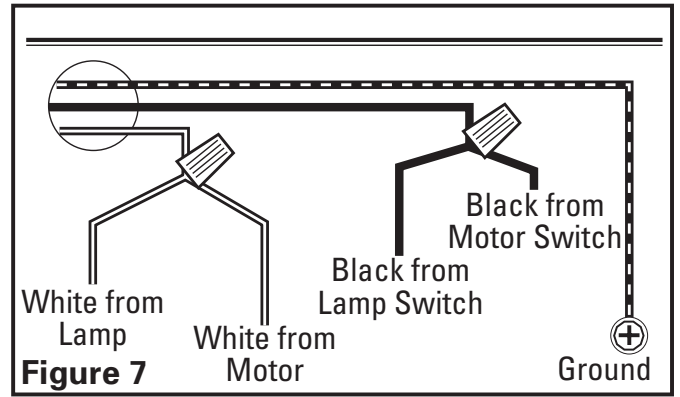

Figure 7
1. Connect the 2 loose White wires from the range hood to the White wire from the supply, and the 2 loose Black wires from the range hood to the Black wire of the supply. Connect the ground wire (green or bare) from the supply to the green ground screw of the hood. Use approved methods for all connections (**Figure 7**).